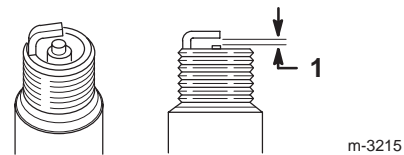

Figure 19
- Set the gap between the electrodes on the new spark plug at 0.030 in. (0.76 mm) as shown in Figure 19.